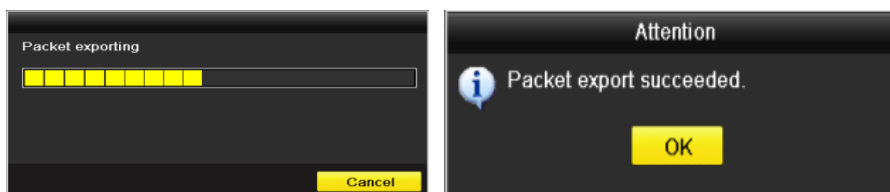

Figure 11-25 Packet Export Attention
Step 5 After the exporting is complete, click **OK** to finish the packet export, as shown in Figure 11-25.